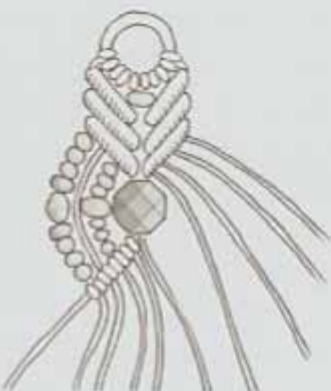

Fig. 7
Variation 2 : Do not add beads to Cord #2, knot it onto the **AC**. Add beads to Cord #1. For example, (3) 11° beads, (1) 8° bead, (1) 4mm bead, (1) 8° bead, (3) 11° beads. The bead count is approximate, adjust if necessary. Knot it onto the **AC** (see Figure 7).